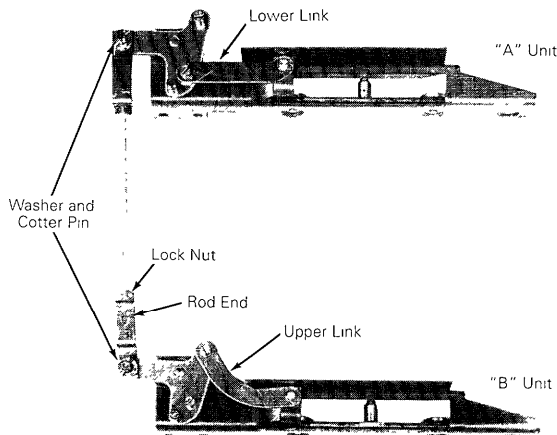

Figure 7. Attachment of the interconnection rod to the compartment units for a vertical installation. The view is from the rear of the compartment
- For a vertical installation, attach the rod ends to the pivots as shown in Figure 7. The rod ends are provided in the Mechanical Interlock kit; the 1/4-20 threaded rod is supplied by the customer.